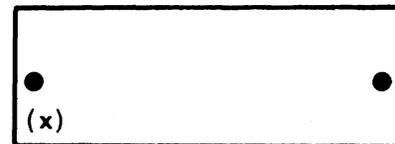

Figure 7. Location of Identification Letter(s) on Identification Plate
1. All S-1200 Series Magnetos below serial number A279075 (red label) or 8114001 (blue label) with factory installed green distributor blocks and identified as P/N 10-349xxx-xxD but without the letter "R" stamped on the identification plate as indicated in figure 7 of this Service Bulletin.
2. All S-1200 Series Magnetos with field installed green DAP distributor blocks. (Ref. Bendix Service Bulletin No. 573) without the letter "R" stamped on the identification plate as indicated in figure 7 of this Service Bulletin.
2. Magnetos in which the block has been replaced must be identified by stamping the letter "R" in the lower left corner of the identification plate, below the drive screw securing the plate to the housing (See figure 7).
3. Magnetos in which the block has been inspected, but not replaced, must be identified by stamping the letter "I" in the location indicated in figure 7.